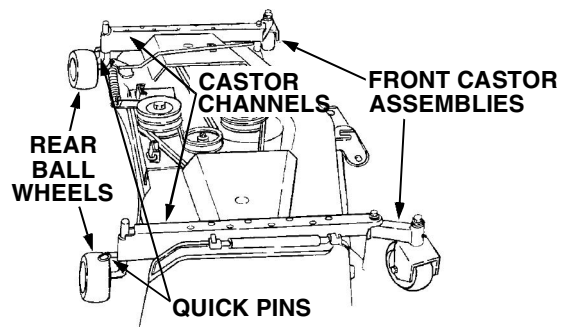

Figure 2-2
2. Reposition all four ball wheels as shown in Figure 2-2. To reposition the rear wheels; remove the quick pins, rotate the rear wheels 90°, and raise them to their uppermost position in the castor channels. Install the two quick pins in the rear holes of the castor channels to secure the rear wheels in this position. Temporarily remove the quick pins and rotate the front castor assemblies outward. The deck should be in its lowest position.